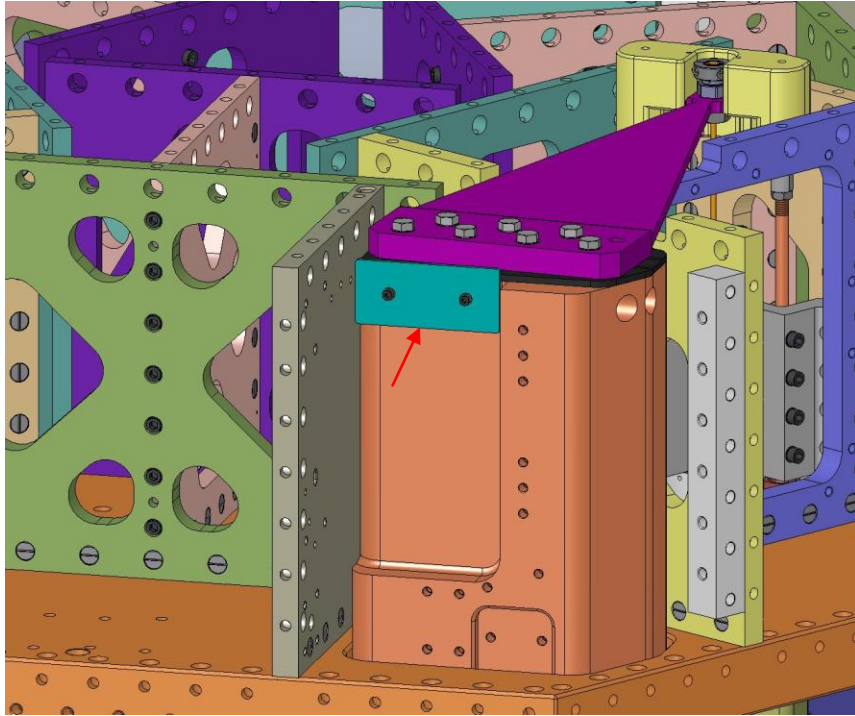

Figure 3.101. Particle Fences are added to prevent debris from Optical Table surface migrating down into Actuators.
- *Before moving onto next step, all (3) **Springs** should be loaded and all (3) **Flexure Lower Plates** should be bolted in.*
- Bolt (3) **Particle Fences** (D071009) to the **Support Posts**, as shown in Figure 3.101. Torque screws to final spec.